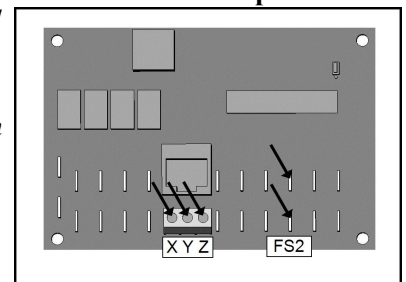

Figure 1
- Connect one wire to "Y". See Figure 1.
- Connect "High" or "Spa" wire to "X". See Figure 1.
- Connect "Common" wire to one terminal of "FS2". See Figure 1.